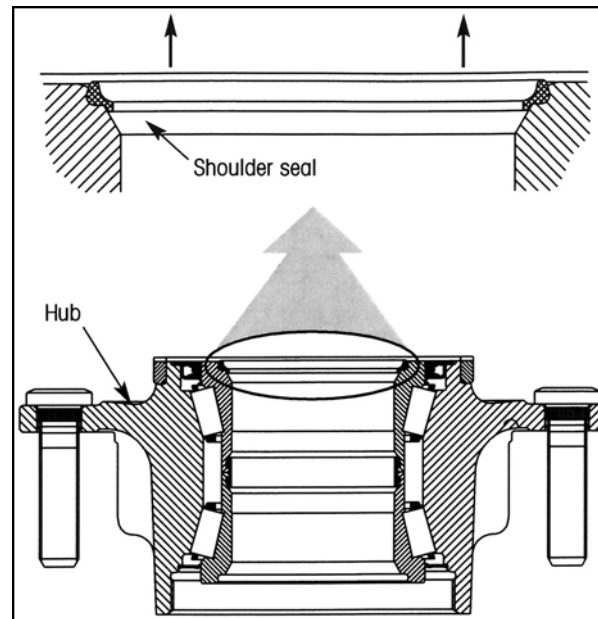

Figure 18. Cross Section View of Wheel Hub
The wheel hub revolves around the axle spindle on two roller bearings. The bearings are lubricated and the hub cavity is sealed against leakage by a seal which rides around an axle ring on the spindle shoulder. Figure 18 illustrates the bearing and seal arrangement.
1. Tighten inner jam nut (figure 18) with a 12 inch wrench while turning wheel in both directions until there is a slight bind which indicates all bearing surfaces are in contact.